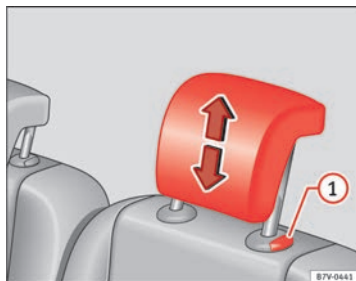

Fig. 87 Fitting the head restraints in the second or third row of seats
- Pull out the head restraint ⇒ Fig. 87  with the button pressed.